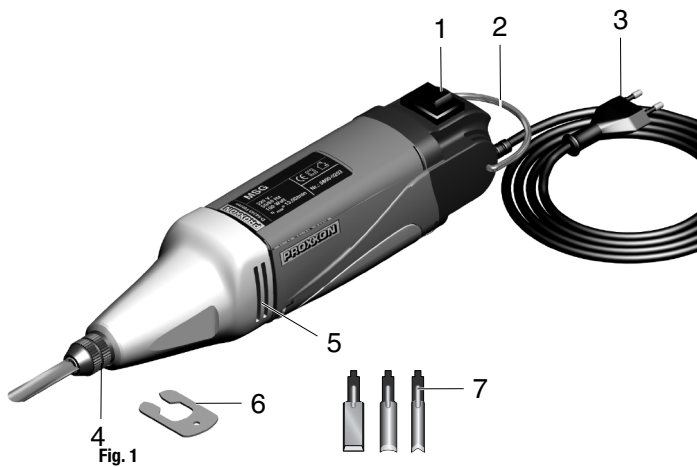

Fig. 1
Captions: (Fig. 1)
2. Turn on the unit at the switch 1 (Fig. 1).
3. Hold the unit such that the ventilation slots 5 (Fig. 1) are not covered.